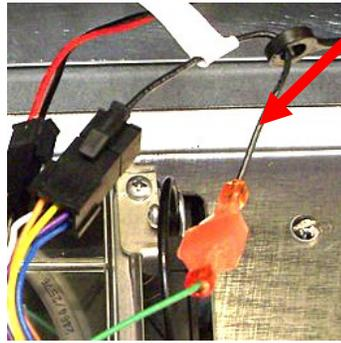

Figure 8
9. Locate and disconnect the current vat locator and ground loop from the rear of the controller (see Figures 8 and 9). Find the matching new vat locator wire that matches the one disconnected. Ensure the pins are in the same location as the one being removed.